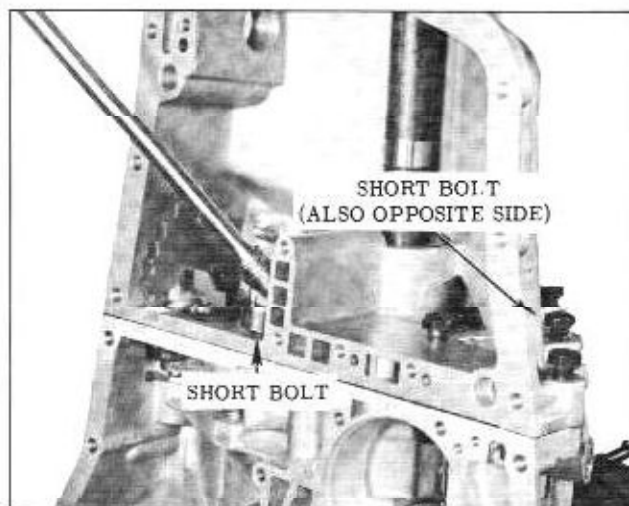

Fig. 3-117 Rear Bearing Retainer Attaching Bolts
10. Install 8 rear bearing retainer to case attaching bolts as shown in Fig. 3-117. Torque all bolts 20 to 25 ft. lbs.